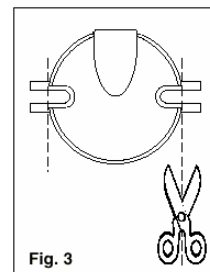

Fig. 3
- C) For heads with 1.69 in. (43 mm) diameter housings, cut the screw slots. For bigger heads, cutting is not necessary. (Fig. 3).